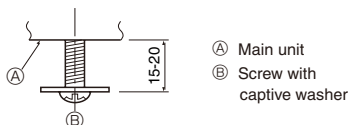

Fig. 9-5
9.4.1. Preparations (Fig. 9-5)
- Install the 2 enclosed screws with washer ② in the main unit (at the corner drain pipe area and at the opposite corner) as shown in the diagram.